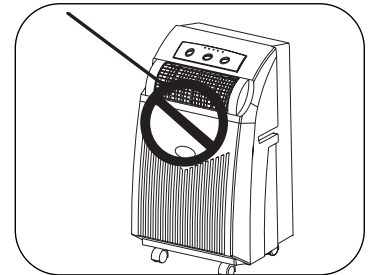

FIG.2
- DO NOT PLACE OBJECTS ON THE UNIT OR RESTRICT AIR INLET / OUTLET (FIG. 2).